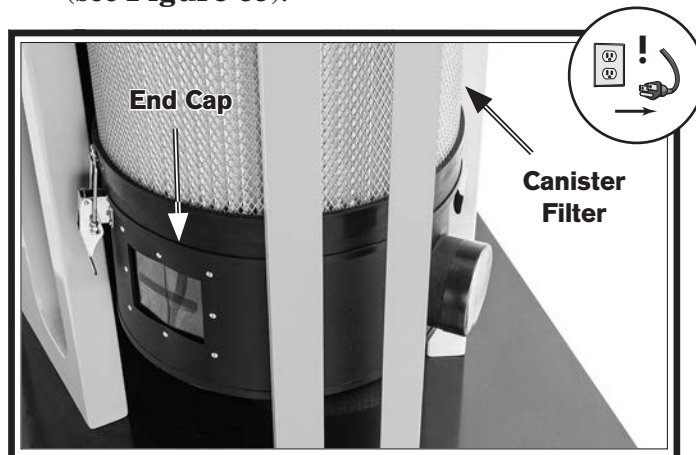

Figure 69. End cap attached to canister filter.
5. Attach end cap to bottom of canister filter (see **Figure 69**).